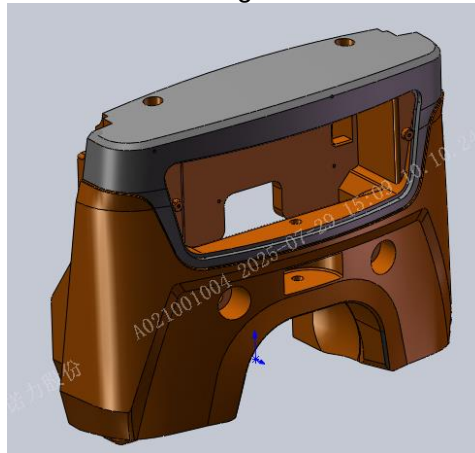

Figure 2-29
(3) Figure 2-29 shows the balanced lifting